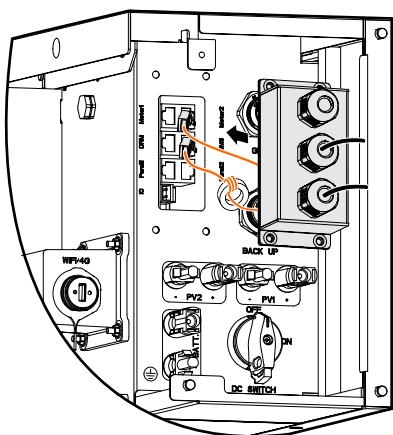

Figure3-66 Insert the communication port
- Step 1 Unscrewing the lock nut, insert the RJ45 port to the communication port after through the magnetic ring and COM wiring cover (as shown in Figure3-66),